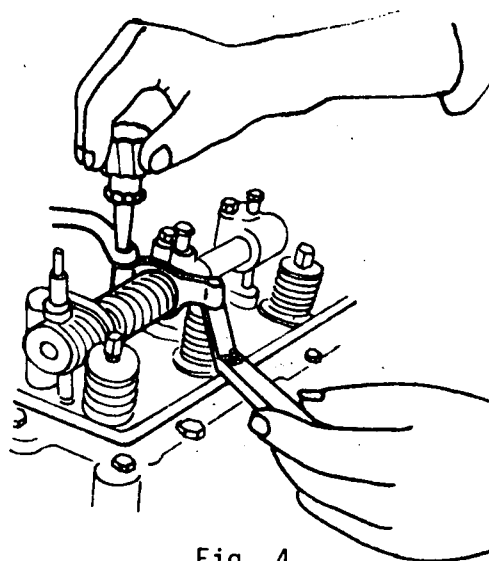

Fig. 4
- Avoiding damage to them as a result of blows sustained when adjusting a part with the engine running (fig. 4).